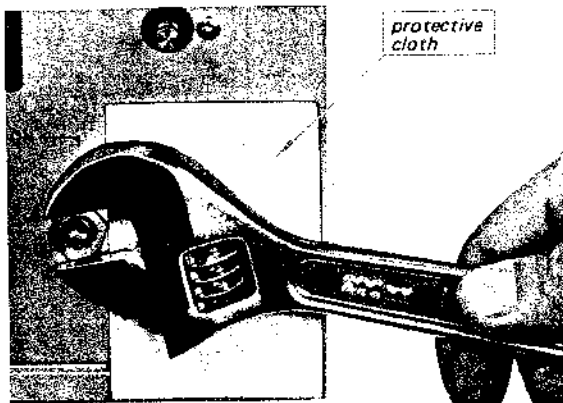
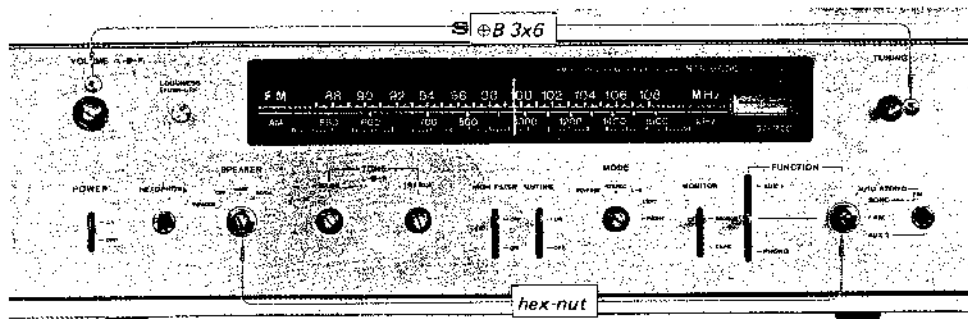

Fig. 2-4. Hex nut removal
Fig. 2-3. Front panel removal
- Remove the two screws ($\oplus B 3 \times 6$) and two hex-nuts securing the front panel to the front subchassis as shown in Fig. 2-3. Place a piece of cardboard or cloth between the wrench and front panel to avoid marring the panel as shown in Fig. 2-4. Now the front panel is free for servicing.